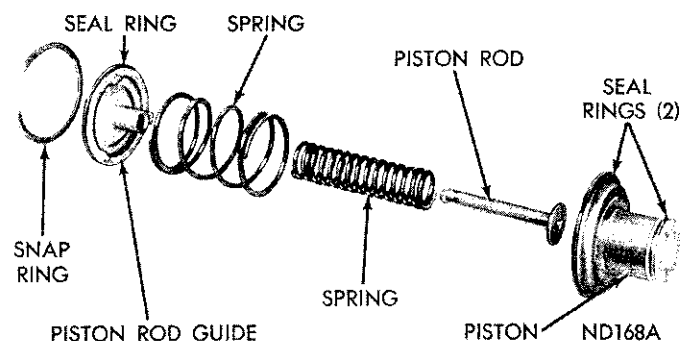

Fig. 70—Kickdown Servo
Figure 70 shows a disassembled view of the kickdown servo assembly. **The large outer spring shown in Figure 70 is not used in transmissions with "Hi-Performance" engines.**
(1) Carefully push servo piston into the case bore. Install piston rod, two springs and the guide (Fig. 70). The transmission used with "Hi-Performance" en-